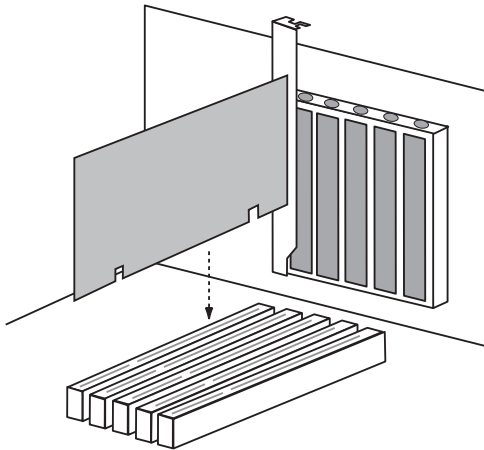

Figure 1-2: Typical Ultra66 controller card installation
Installing the Ultra66 controller card in a system is a simple process. The card fits into any available 32-bit PCI slot on the system's motherboard (see Figure 1-2).
- ❶ Remove the cover of your system.
- ❷ Remove the inside slot cover of an available 32-bit PCI slot on the motherboard.
- ❸ Install the Ultra66 controller card into the open slot (see Figure 1-2).
- ❺ Fasten the controller card bracket to the system case (see Figure 1-2).